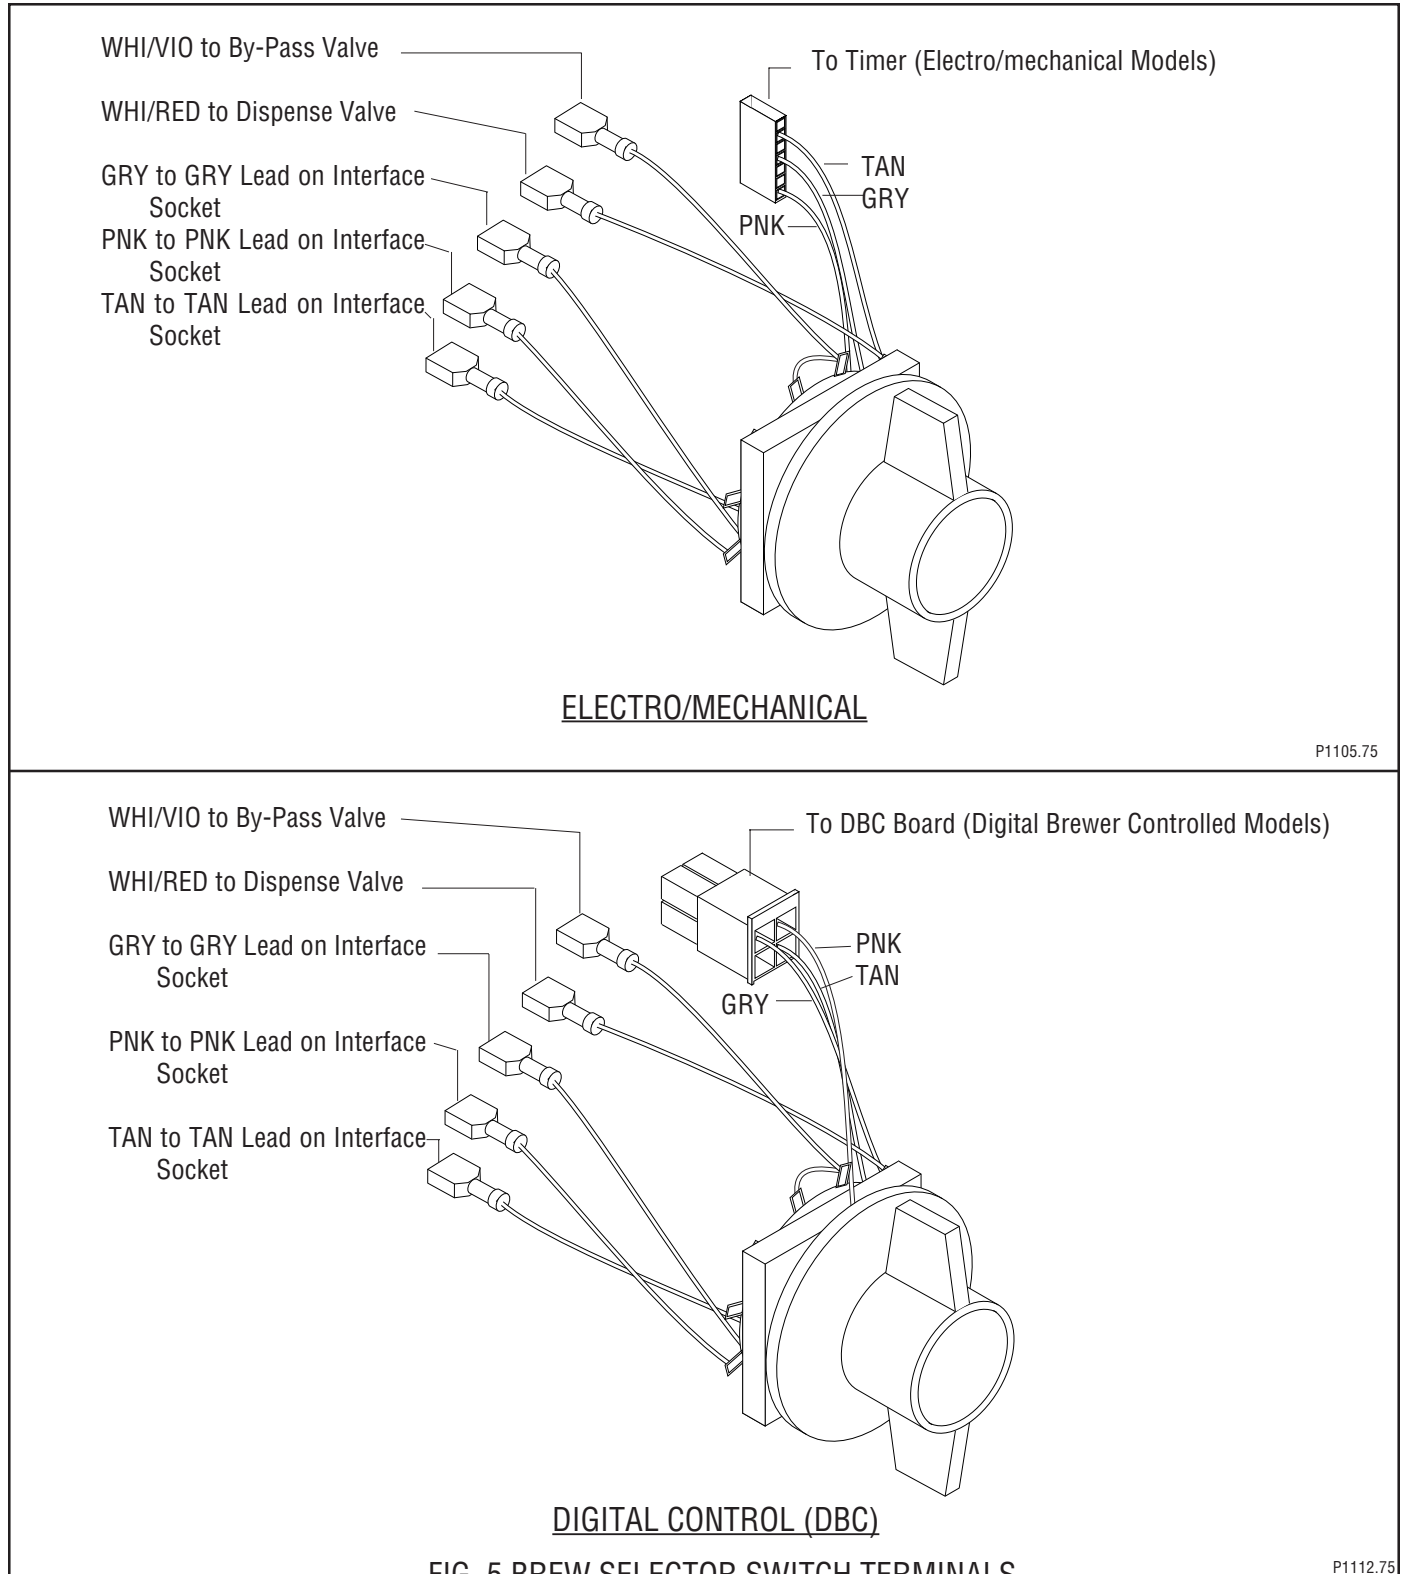

FIG. 5 BREW SELECTOR SWITCH TERMINALS
9. Refer to Fig. 5 when reconnecting the wires.